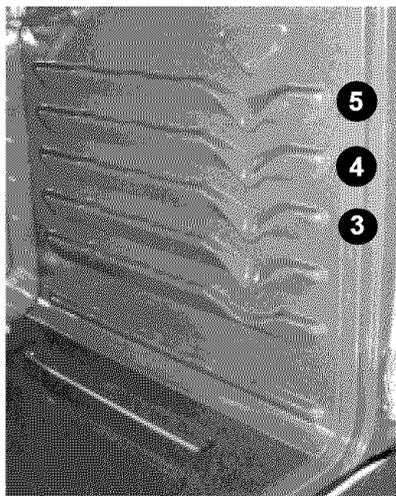

Fig. 1
- Place the insert on the broil pan, then place the food on the insert (See Fig. 1). **DO NOT** use the broil pan without the insert or cover the insert with **aluminum foil**. The exposed fat could ignite.
### Broil Rack Position Table (Refer to Fig. 1)